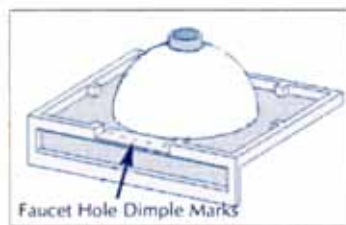

Figure 1
3. Faucet hole dimple marks are located on the underside of the vanity top. Select the desired dimple marks to match your faucet. See Figure 1.